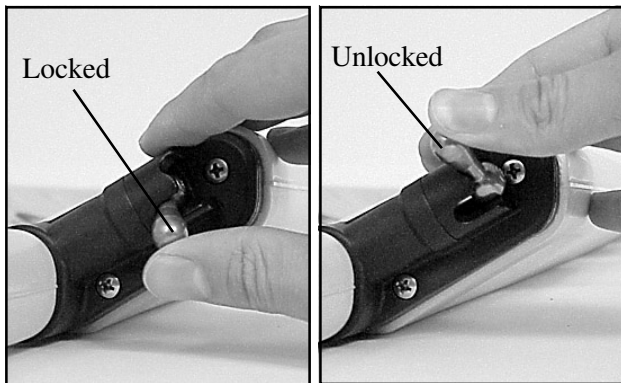

Figure 1: Using the Lock-Pin Lever
1. Move the lock-pin lever on each side of the frame to the unlocked position (Figure 1).
**Note:** When the stretcher is lying face-up on a flat surface, the locked position is "down" and the unlocked position is "up" (Figure 1).
3. Return both lock-pin levers to the locked position (Figure 1).